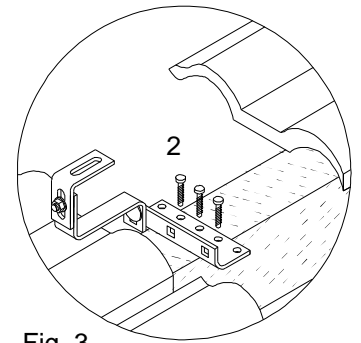

Fig. 3
1. Determine the position of the panels on the roof. Remove for each hook (1) a roof tile which is located exactly on the rafter behind. Consider that the upper roof hooks have to be mounted two tile rows below the roof ridge!
2. The three press cuts on the base line of the roof hook (1) can compensate the lateral transfer (Fig. 3).